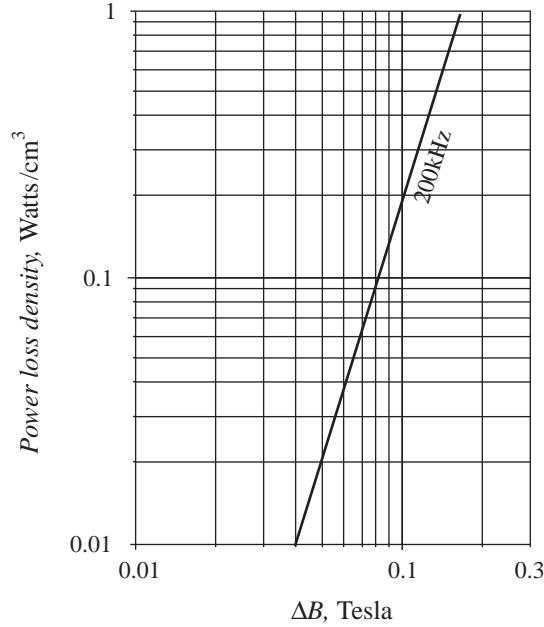

Figure 4 Core loss data for the ferrite core material.
3. The saturation flux density of the ferrite core material is $B_{sat} = 0.4 \text{ T}$. At what winding current does the inductor saturate? Again, account for the reluctances of the air gaps and the cores. Enter a numerical result in amperes (A), with an accuracy of $\pm 0.5\%$.
4. When the winding current of Question 3 flows in the winding, what is the magnetomotive force (MMF) across the center leg air gap? Express your answer in amperes (A), with an accuracy of $\pm 0.5\%$.
5. The manufacturer's data sheet includes the plot of Fig. 4 for the core loss of the ferrite material. This plot passes through the points